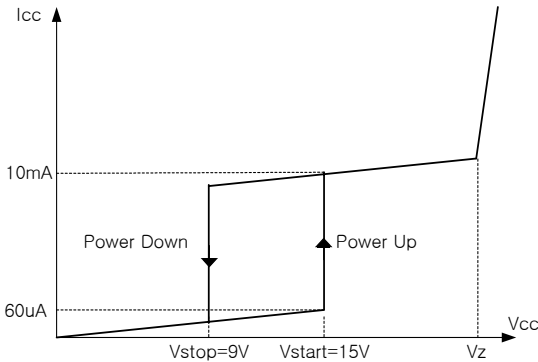

Figure 1. Relation between supply current and voltage
**1. Startup :** To guarantee stable operation of the control IC, Vcc has under voltage lockout (UVLO) with 6V hysteresis. Figure 1 shows the relation between the supply current (Icc) and the supply voltage (Vcc). Before Vcc reaches 15V, the start-up current is 60μA, which is usually provided by the DC link through start-up resistor. When Vcc reaches 15V, the control IC begins operation and the operating current increases to 10mA as shown. Once the control IC starts operation, it continues its normal operation unless Vcc goes below the stop voltage of 9V.